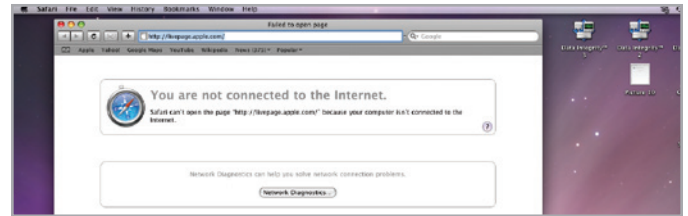

Fig. 67 - Mac Screen: New Browser Window
2. Open a Safari browser window (Fig. 67).